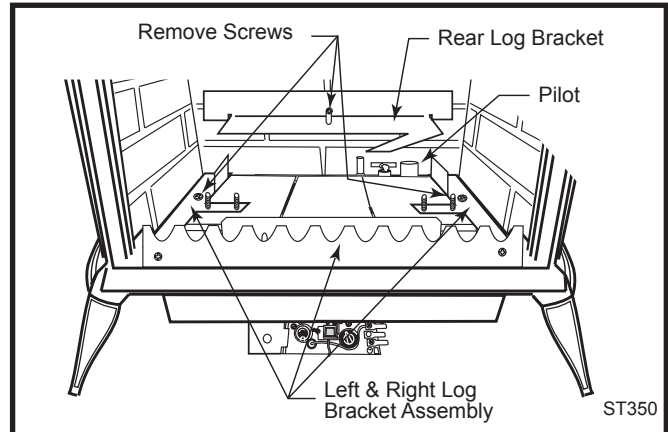

Fig. 53 Remove rear log bracket and left and right log bracket assembly.
5. Remove the rear log bracket by loosening the screw and lifting the bracket up and away. (Fig. 53)
6. Remove the right and left log bracket assembly by unfastening the two screws which hold the burner in place. (Fig. 53)
15. Locate pilot. (Fig. 53)